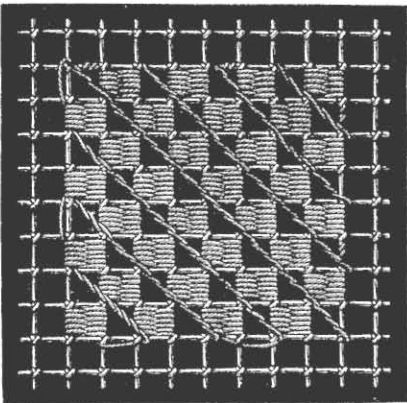
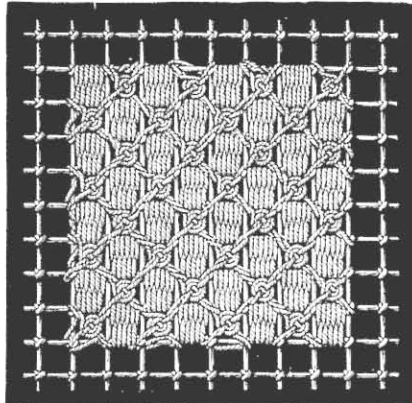

Fig. 52. Ground of squares in darning and overcasting stitch.
Fig. 53. Ground of squares in darning stitch with little wheels.
**Ground of squares in darning and overcasting stitches (fig. 52.)**
**Ground with squares of darning stitch and little wheels (fig. 53).** — In figure 53 you fill the squares with darning stitches, as in figure 52, and instead of making long bars you introduce a wheel with four spokes into each empty space.